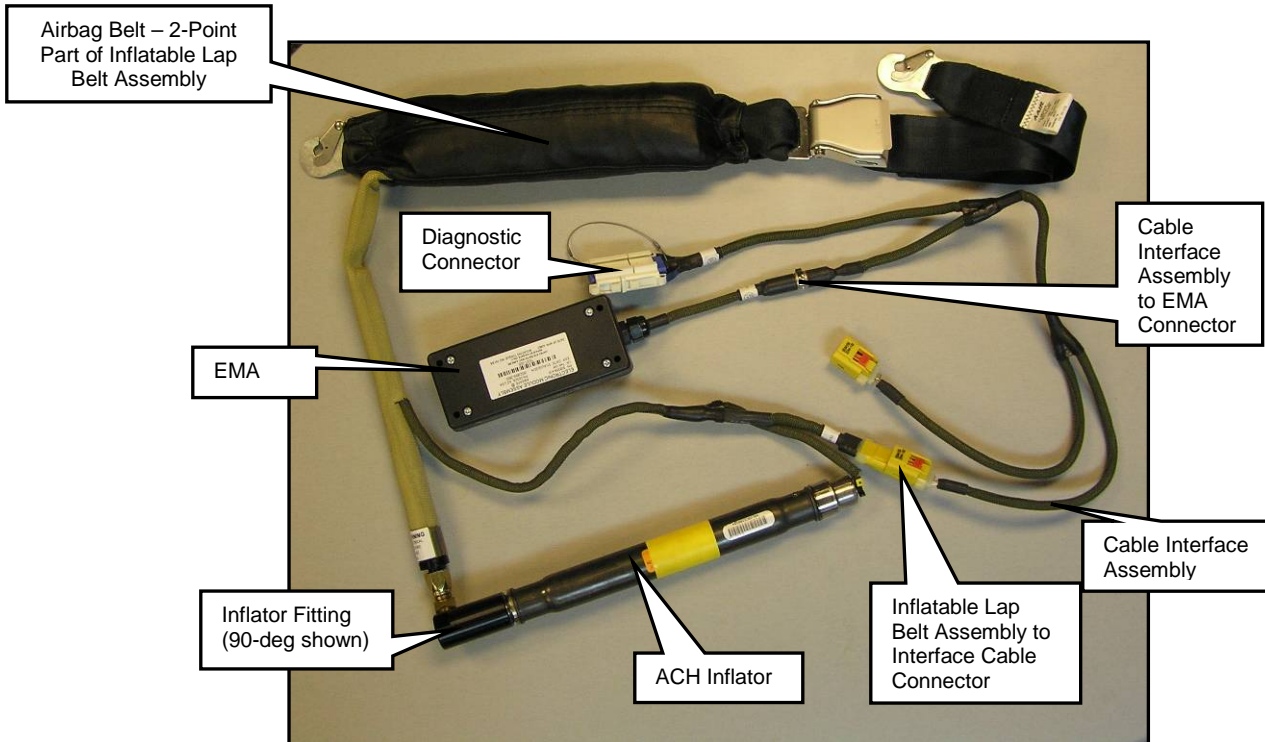

Figure 1: Representative Lift-Latch AmSafe Seatbelt Airbag System V23
- (1) The Inflatable Lap Belt or Restraint Assembly consists of two primary subassemblies; the Airbag Belt and the Buckle Belt. The subassemblies are of the same basic configuration as conventional non-inflatable seatbelts. Figures 1 through 4 identify the primary components of the AmSafe Seatbelt Airbag System.
- (2) The airbag belt utilizes a similar tongue or coupling as conventional seatbelts. It may have an attached enabling switch. The buckle side belt uses a lift-latch or end-release buckle. It may include a magnet that closes an enabling switch upon buckling the belt halves together. The enabling switch provides circuit continuity when the two seatbelt halves are connected allowing the EMA to make the system active.